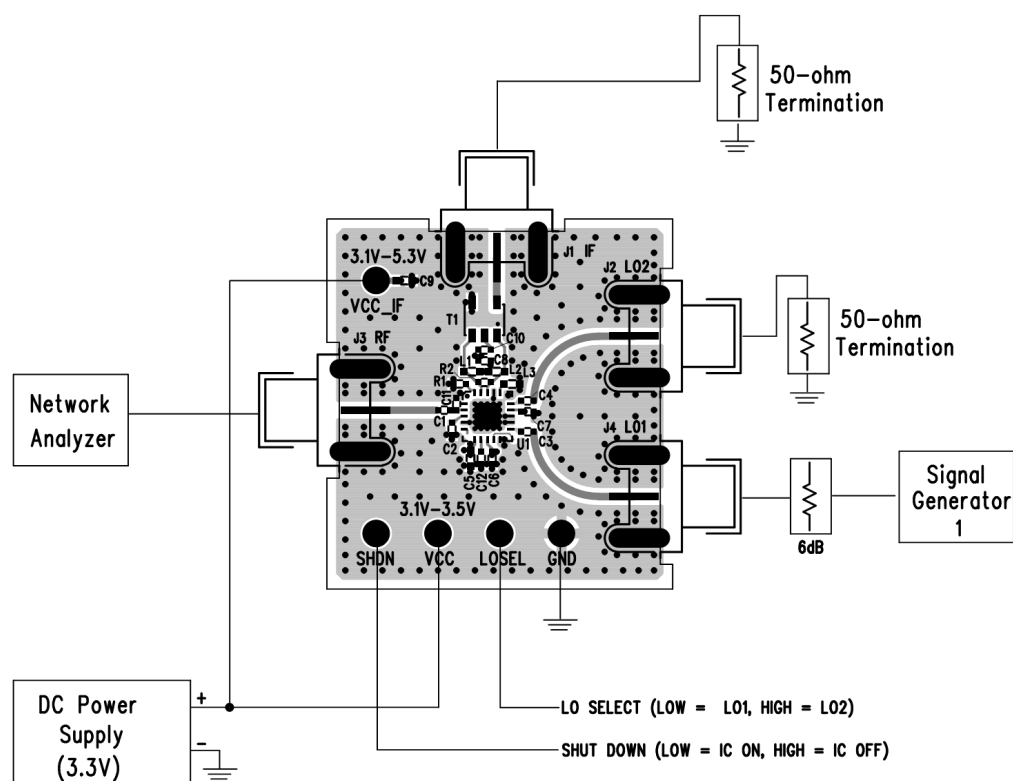
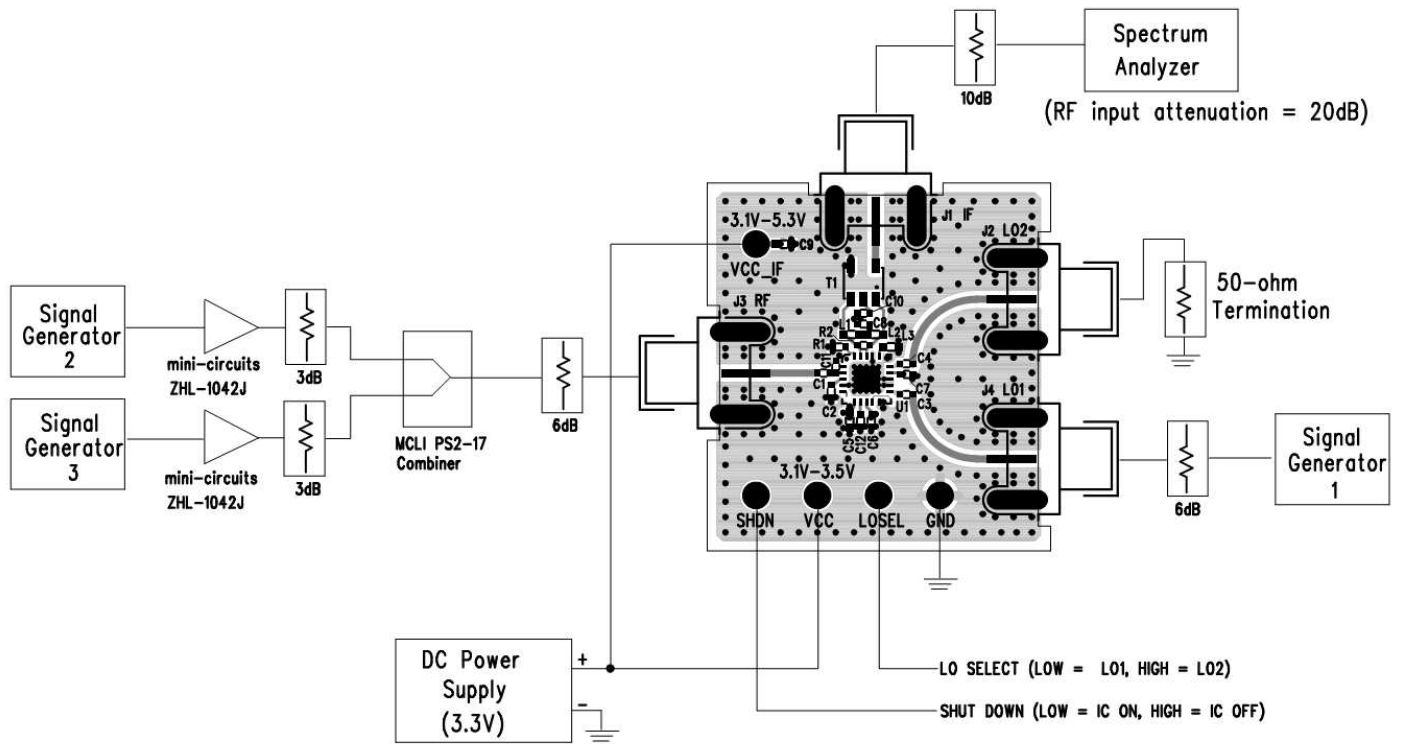

Figure 5. Proper Equipment Setup for Return Loss Measurements
Figure 6. Proper Equipment Setup for RF Performance Measurements
The LTC5540 is a high dynamic range downconverting mixer IC with very high input 3rd order intercept. Accuracy of its performance measurement is highly dependent on equipment setup and measurement technique. The recommended measurement setups are presented in Figure 5, Figure 6, and Figure 7. The following precautions should be observed:
The LTC5540 consists of a high linearity passive double-balanced mixer core and IF buffer amplifier. Due to the bi-directional nature of all passive mixers, LO \pm IF mixing product is always present at the RF input, typically at a level of 12dB below the RF input signal. If the LO \pm IF "Pseudo-Image Spur" is not properly terminated, it may interfere with the source signals, and can degrade the measured linearity and noise figure significantly. To avoid interference from the LO \pm IF "Pseudo-Image Spur", terminate the RF input port with an isolator, diplexer, or attenuator. In the recommended measurement setups presented in Figure 6 and Figure 7, the 6dB attenuator pad at the demonstration circuit's RF input serves this purpose.
Demonstration circuit 1431A-A is easy to set up to evaluate the performance of the LTC5540. Refer to Figure 5, Figure 6, and Figure 7 for proper equipment connections and follow the procedure below:
3. Connect all test equipment as shown in Figure 5 with the signal generator and the DC power supply turned off.
1. Connect all test equipment as shown in Figure 6 with the signal generators and the DC power supply turned off.